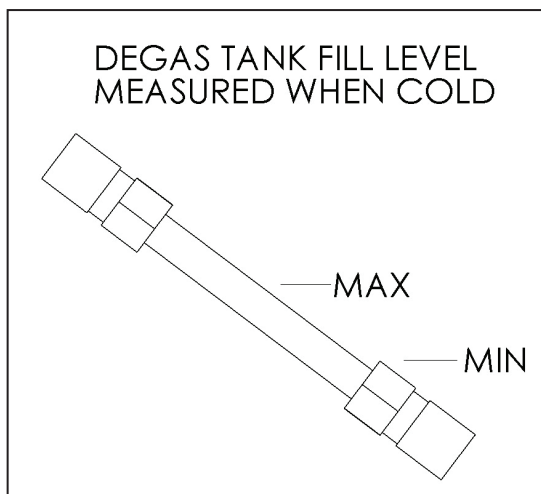

Figure 109 — Degas fill level
- ☐ Fill the VMAC degas tank with the coolant saved from the primary coolant system (Figure 109).